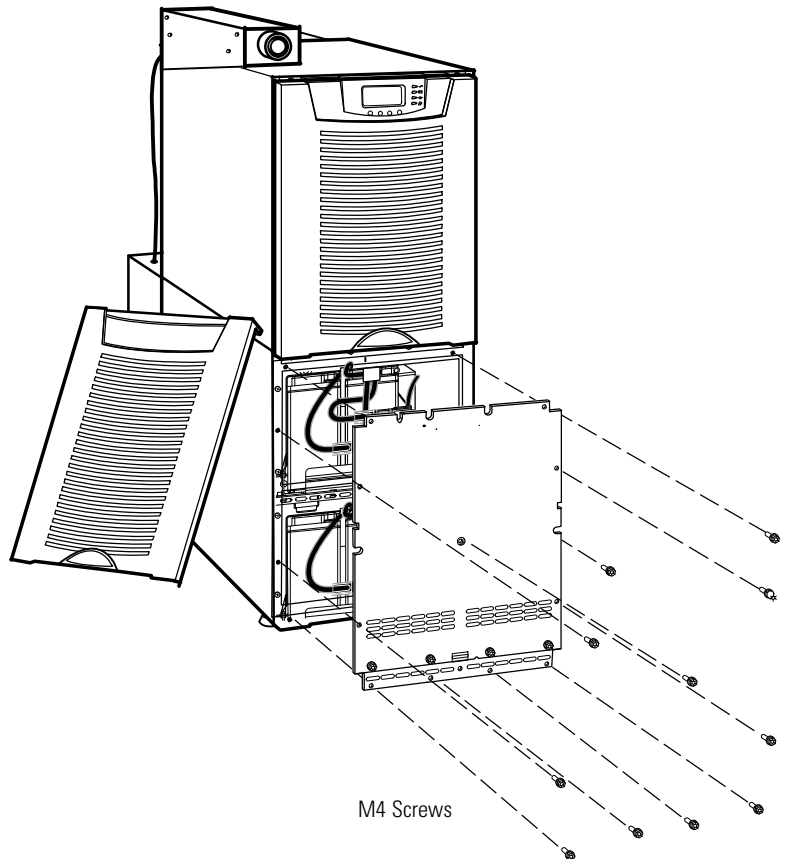

Figure 43. Removing the Battery Cover Panel
- The battery cover panel is made up of two parts joined together with four screws. Remove both parts of the panel at the same time by removing the 10 M4 screws on the edges of the panel and the M4 screw in the middle of the panel (see Figure 43).